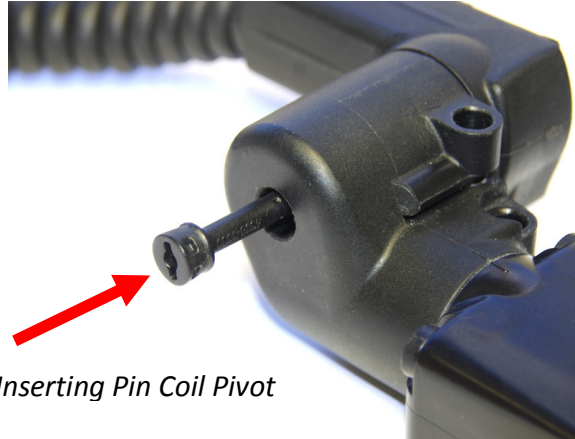

Figure 60: Inserting Pin Coil Pivot
- Fit the O-ring to the coil as shown in Figure 60.